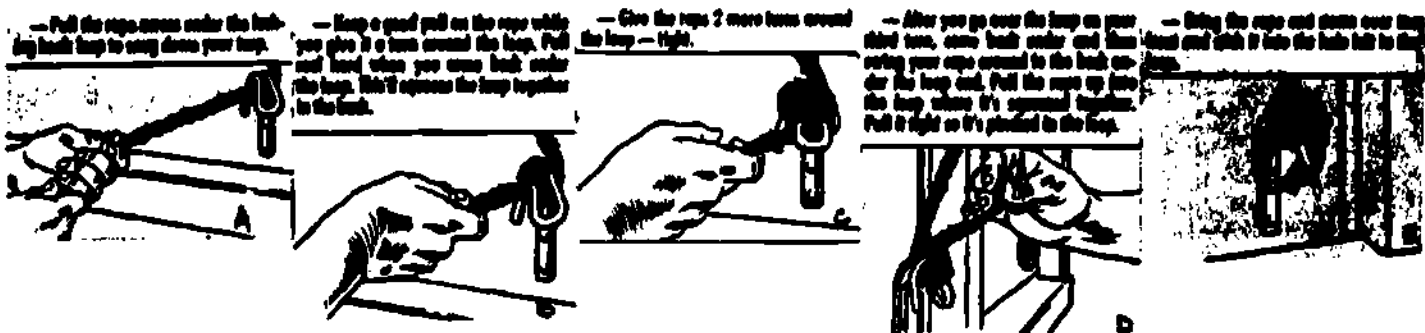

Fig 2-64. Lashing canvas.
- Tying of canvas can be done in many ways. The method illustrated in figure 2-64 enables the canvas to be tightened so that it will not flop and prevents the tiedowns from coming untied.